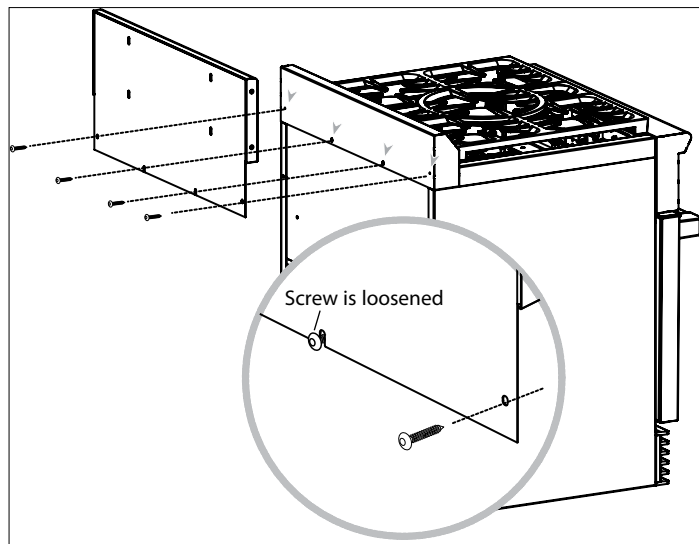

Fig.02
2. Align the backguard with the range, so that it rests on the island trim. Fasten the bottom of the backguard to the rear of the range using all the screws provided, as shown (Fig. 02). The two center screws come already attached to the range for your convenience.